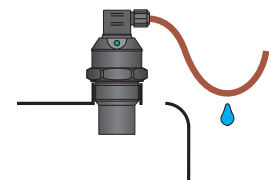

Fig. 9: Protection against penetration of moisture
- m) It is advisable to keep cable under the cable gland (sagging down) as shown in Fig. 9 to prevent penetration of moisture. Rain and condensing water can be therefore drained away freely.